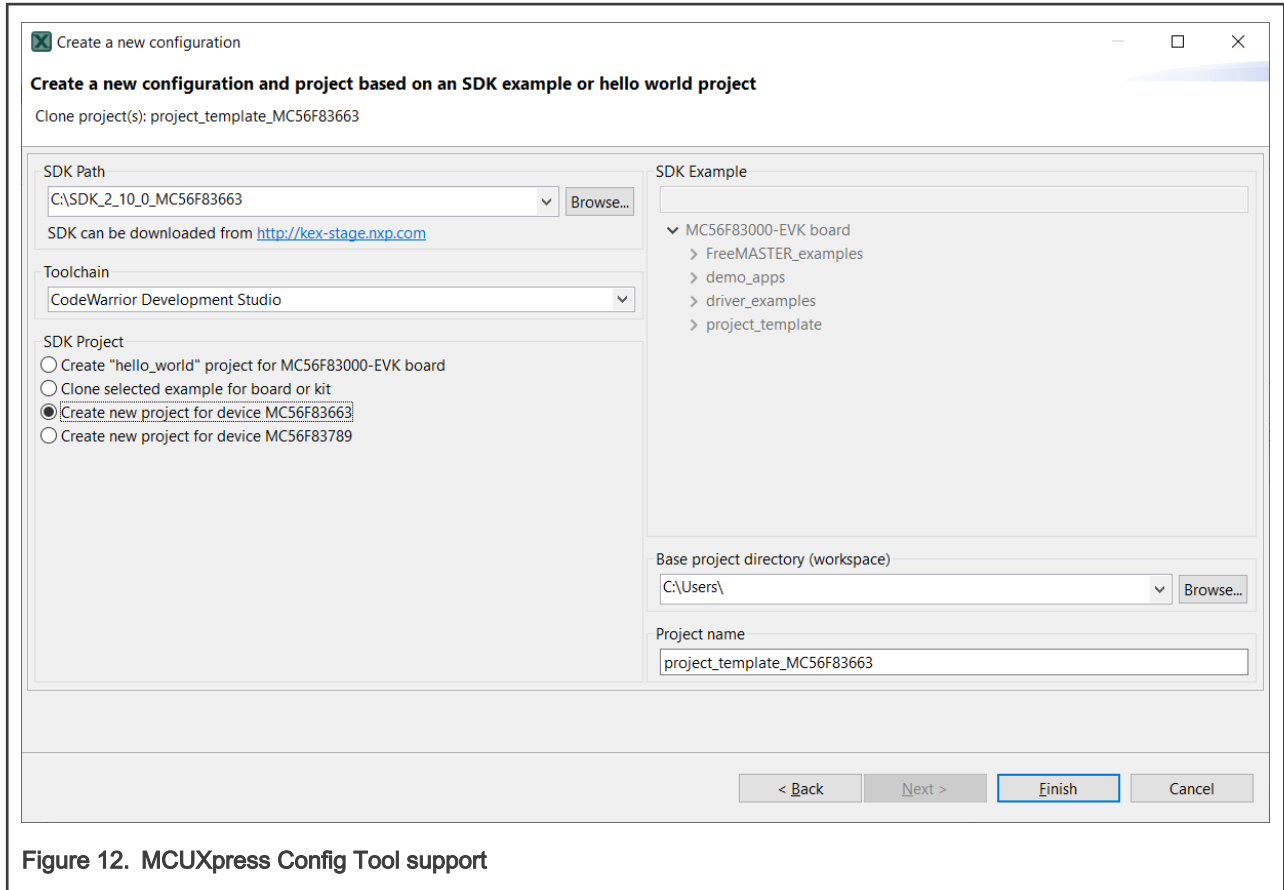

Figure 12. MCUXpresso Config Tool support
2. Use MCUXpresso Config Tool (v10 or later) to create a project template project, as shown in Figure 12.
3. Import the generated template project into CodeWarrior IDE and start the development. By now, a config tool file (extension .mex) with the same project name as shown in Figure 12 is also generated in the generated project folder. This config tool file achieve easy configurations for pins, clocks, and peripherals.
The default created project template by Config Tool is `project_template_{part_number}`. For modification, modify the default words in **Project name** textbox, as shown in Figure 12.